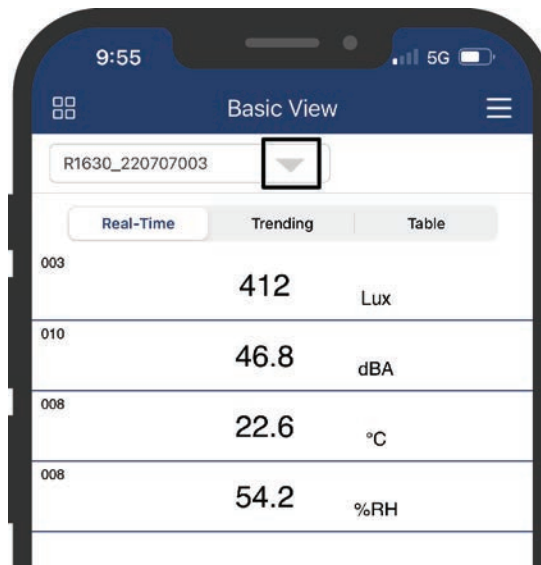

Figure 6
1. While in the application screen, tap on the ▼ icon (Figure 6) to access the connected devices list.